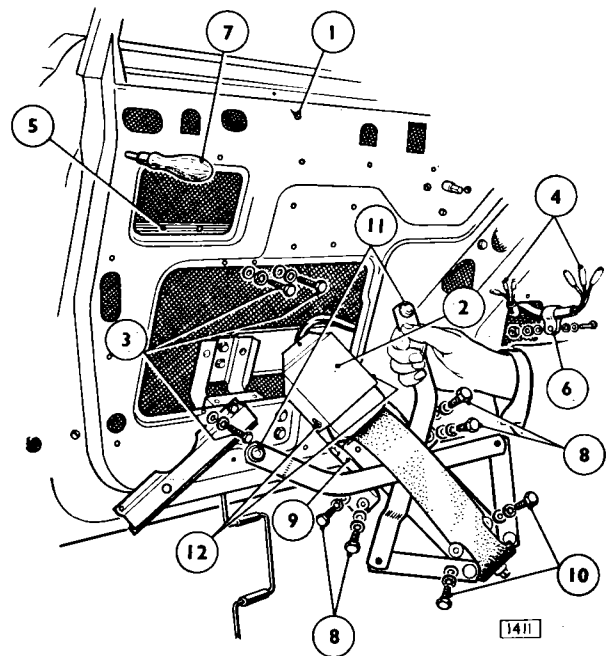

Fig. 50. Removing the regulator
Lower the window to the full open position and remove the self-tapping screw (1) Fig. 50, securing the regulator motor support bracket (2) to the window sill fold in the outer door panel.
Note the position of the window lifting arms. Remove the regulator complete with the side mounting brackets and the motor with the motor support as illustrated in Fig. 50.